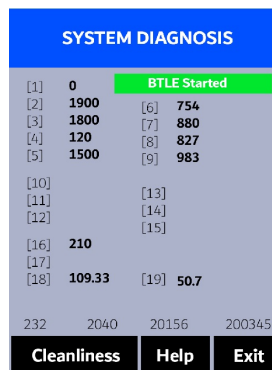

Figure 32.
Press **Diagnosis** () to launch the **SYSTEM DIAGNOSIS** screen where raw measurement data are displayed (Figure 32). The information has no use for normal operation, but instead is used for device troubleshooting. Provide an image of both the **DEVICE INFORMATION** screen and the **SYSTEM DIAGNOSIS** screen when you contact Pyxis (service@pyxis-lab.com) for troubleshooting your device or call +1 (866) 203-8397.
4. Allow 5–10 seconds for the message in the top-right corner of the display change from **Starting BTLE...** to **BTLE Started** (Figure 32).